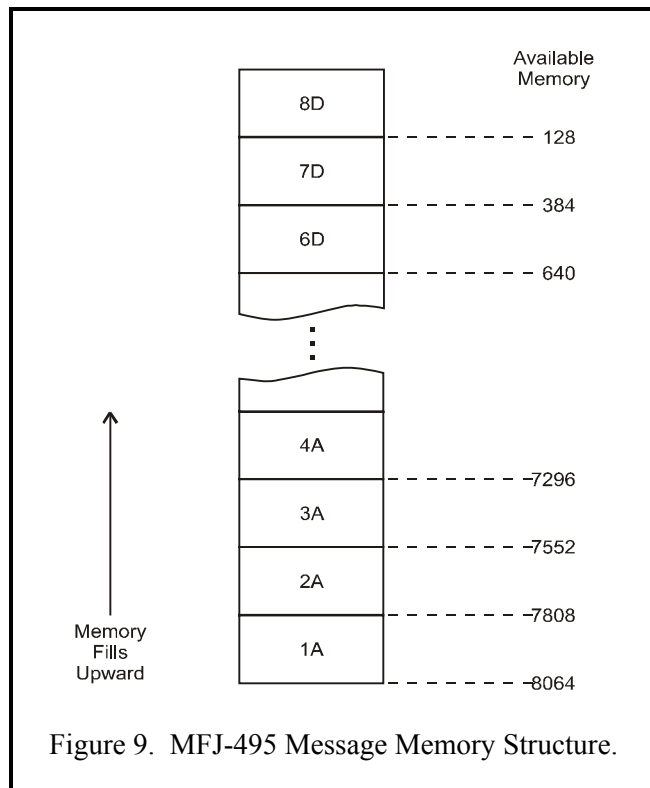

Figure 9. MFJ-495 Message Memory Structure.
The unit's 8K memory is organized with four banks of eight blocks of 256-bytes each, except the last block. This composes of 32 individual memory blocks arranged in a stack structure, illustrated in the diagram shown in Figure 9. The memory banks are labeled A through D. The total memory available is 7.875K (8064) characters, where 1K = 1024. Each memory block is nominally  $\frac{1}{4}$ K (256) characters, except the last block 8D that has a capacity of 128 characters. However, an individual message may fill more than one memory block. When this happens, blocks are filled sequentially, moving upward in the diagram. If a message begins in block 1B or higher memory blocks,  $\frac{1}{4}$ K is reserved for each of the previous memory blocks.